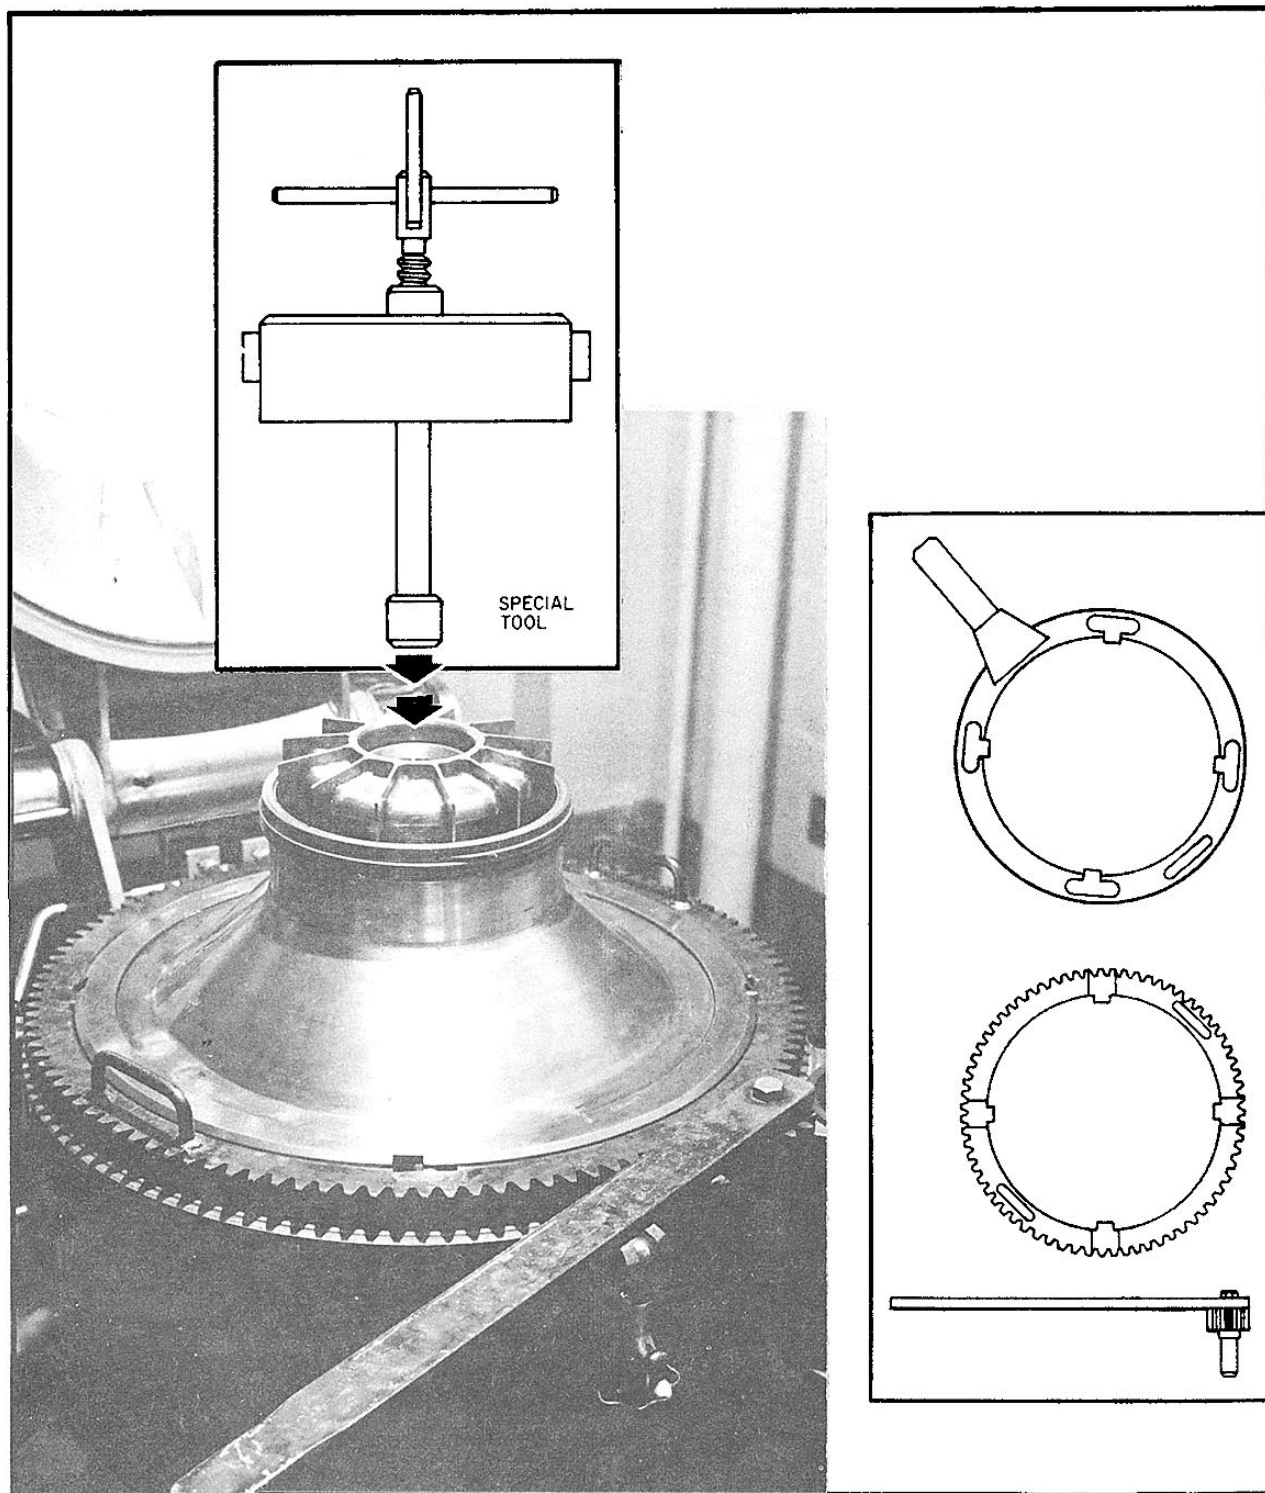

Figure 4-37.—Removing coupling ring (with special tool).
5. Remove the coupling ring (fig. 4-37) by loosening it first with the gear wrench, then unscrewing the coupling ring with the special tool.